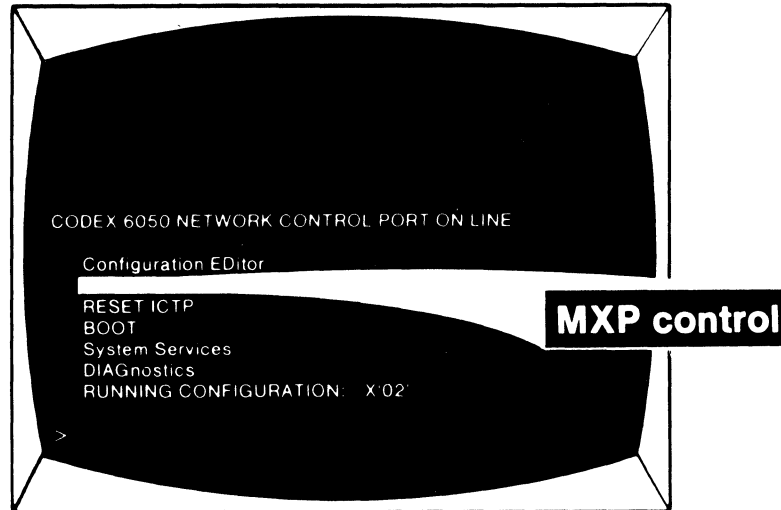

Figure 2-20
2.2.2.2 Muxport Control Option (See Figure 2-20).